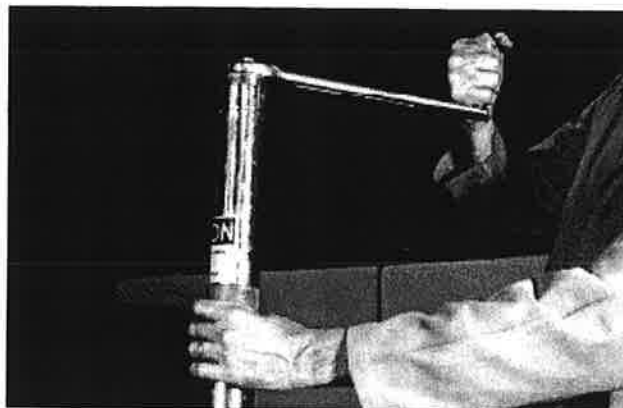

Figure 37. Attach and Turn Ratchet
- B. Attach ratchet handle to 3/4" hex drive. See Figure 37. While a ratchet handle is furnished, best results will be obtained if handle is rotated 360 degrees while cutting. Turn clockwise only. If air motor is used, review Paragraph 6.2, Section I, "Air Motor Operation," for important instructions. The rate of advance for the hole saw is determined by the advance of the feed tube. Do not overfeed to prevent damage to the pilot drill or hole saw. Eight revolutions of the feed tube will lower the hole saw one inch.